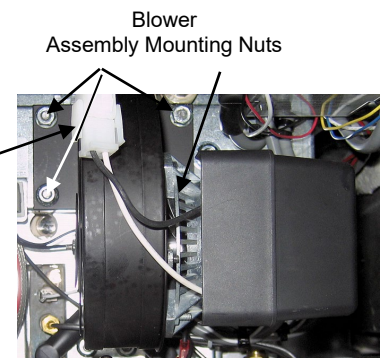

Figure 4
1. Disconnect the blower wiring harness and remove the four blower mounting nuts. (See Figure 4)